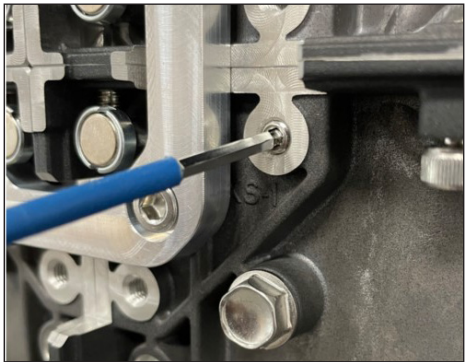
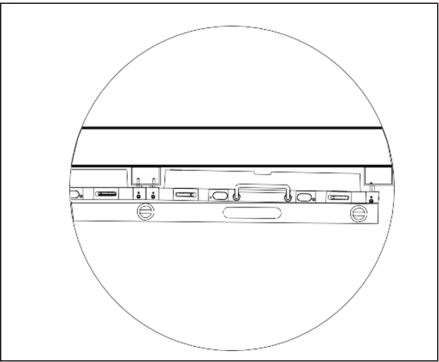

Figure 18: Adjust the Jacking Hardware
Figure 19: Verify Flatness
- 9. Use a 3 mm Allen wrench to tighten the jacking hardware next to the existing panel until the panel is firmly seated against the tube. Refer to **Figure 18**. Tighten the remaining adjustment hardware until it touches the tube.
- b. Verify flatness by laying a 4' level across the face to ensure the combined face of both panels is straight and flat. Check both ends of the panel. Refer to **Figure 19**.
- c. Use a 3 mm Allen wrench to adjust the jacking hardware as needed to modify the four corners of panel depth. Refer to **Figure 18**.
- 5. Use a 3 mm Allen wrench to tighten the jacking hardware next to the existing panel until the panel is firmly seated against the tube. Refer to **Figure 18**. Tighten the remaining adjustment hardware until it touches the tube.
- c. Use a 3 mm Allen wrench to adjust the jacking hardware as needed to modify the depth on the four corners of the panel. Refer to **Figure 18** and **Figure 19**.